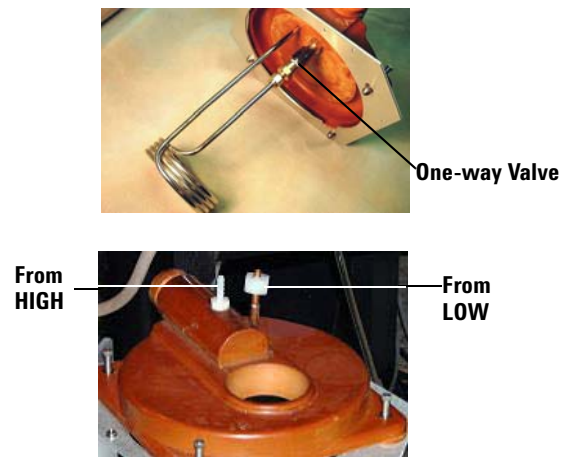

Figure 6 Liquid nitrogen heat exchanger
The liquid nitrogen heat exchanger must have a one-way valve (see Figure 6 on page 19).
- 2 Connect the gas line from the router labeled LOW in the temperature section of the output panel to the input of the heat exchanger coil, see Figure 6 on page 19.
- 3 Connect the gas line from the router labeled HIGH in the temperature section of the output panel to the lid hose barb, see Figure 6 on page 19.